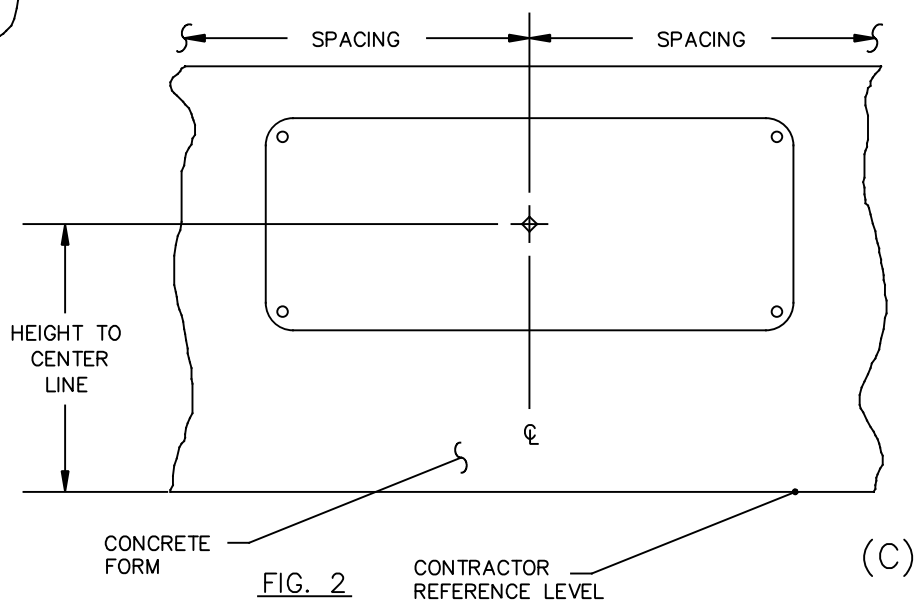

FIG. 2
5. POSITION AND LEVEL TEMPLATE OVER HOUSING CENTERLINE FROM STEP 4 FIG. 2. MARK HOLE LOCATIONS FOR 3" LOCATING STUDS USING TEMPLATE AS A GUIDE.